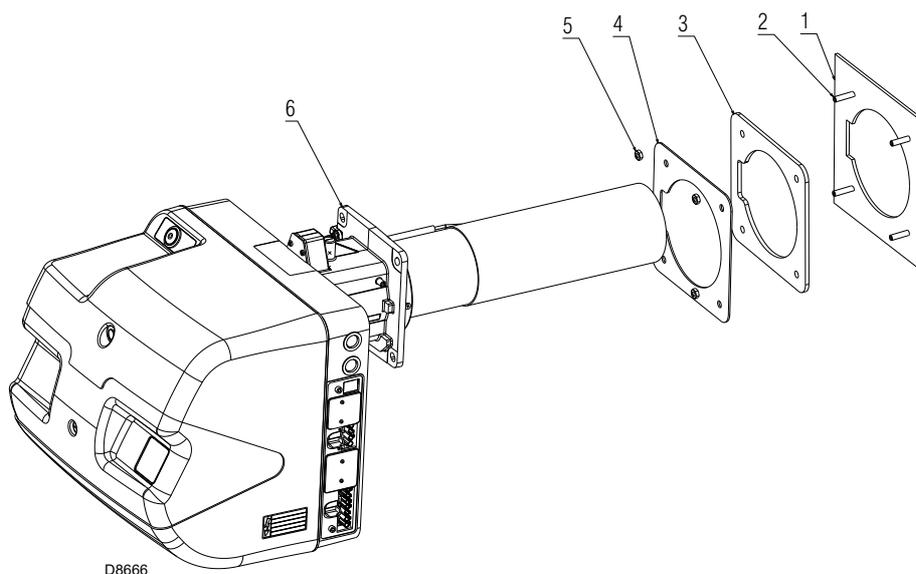

Fig. 19
- Screw the studs 2)(Fig. 19) onto the boiler plate 1).
- Fix the flange of the burner (Fig. 19) to the boiler plate and tighten the nuts 5)(Fig. 19).